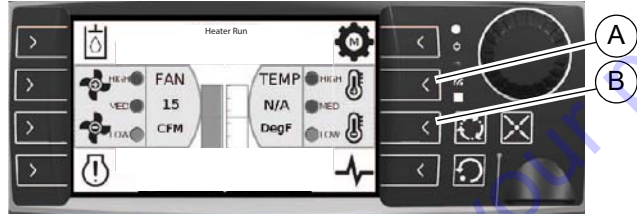

Figure 3-4. Air Output Temperature Adjustment
2. See Figure 3-4. Adjust temperature by pressing *Increase* (A) or *Decrease* (B).